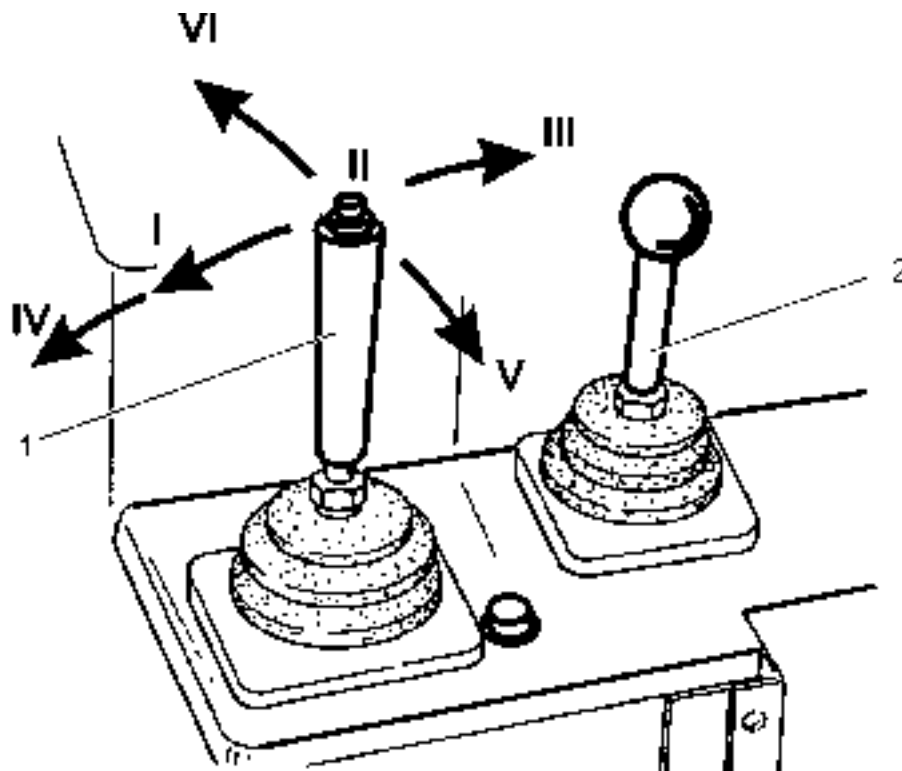

Fig. 4.21. Blade Control Lever Positions (1)
4.17.1. BLADE CONTROL LEVER (Fig. 4.21)
With the control lever in the "Float" position, the blade is free to follow the contour of the ground. To place the control lever in the float position, push all the way forward to its detented position IV in Fig. 4.21. The lever will remain in this position until it is manually returned to the "Hold" position.